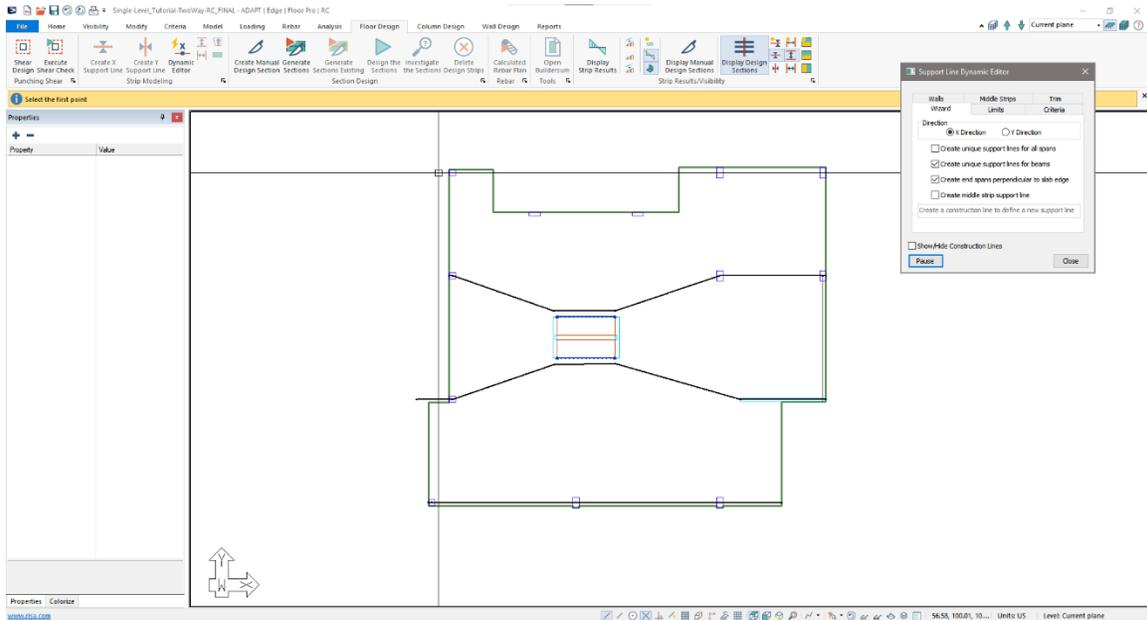

Figure 6-12
- Hover your mouse over the left slab edge to the left of the upper-left most column as shown in **FIGURE 6-12**.